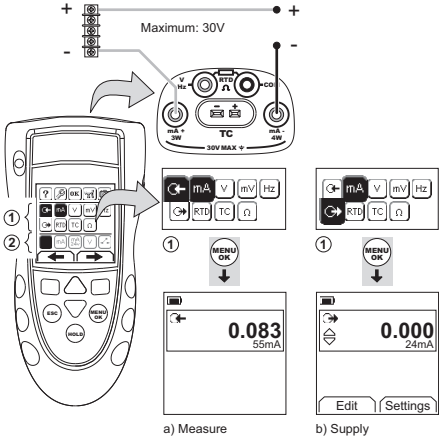

Figure 1: Example Configuration - To Measure/Supply mA with External Loop Power (Area ①)
1. Connect the instrument (Figure 1, Figure 2 or Figure 3) and, if necessary, adjust the Set Up (Table 1).